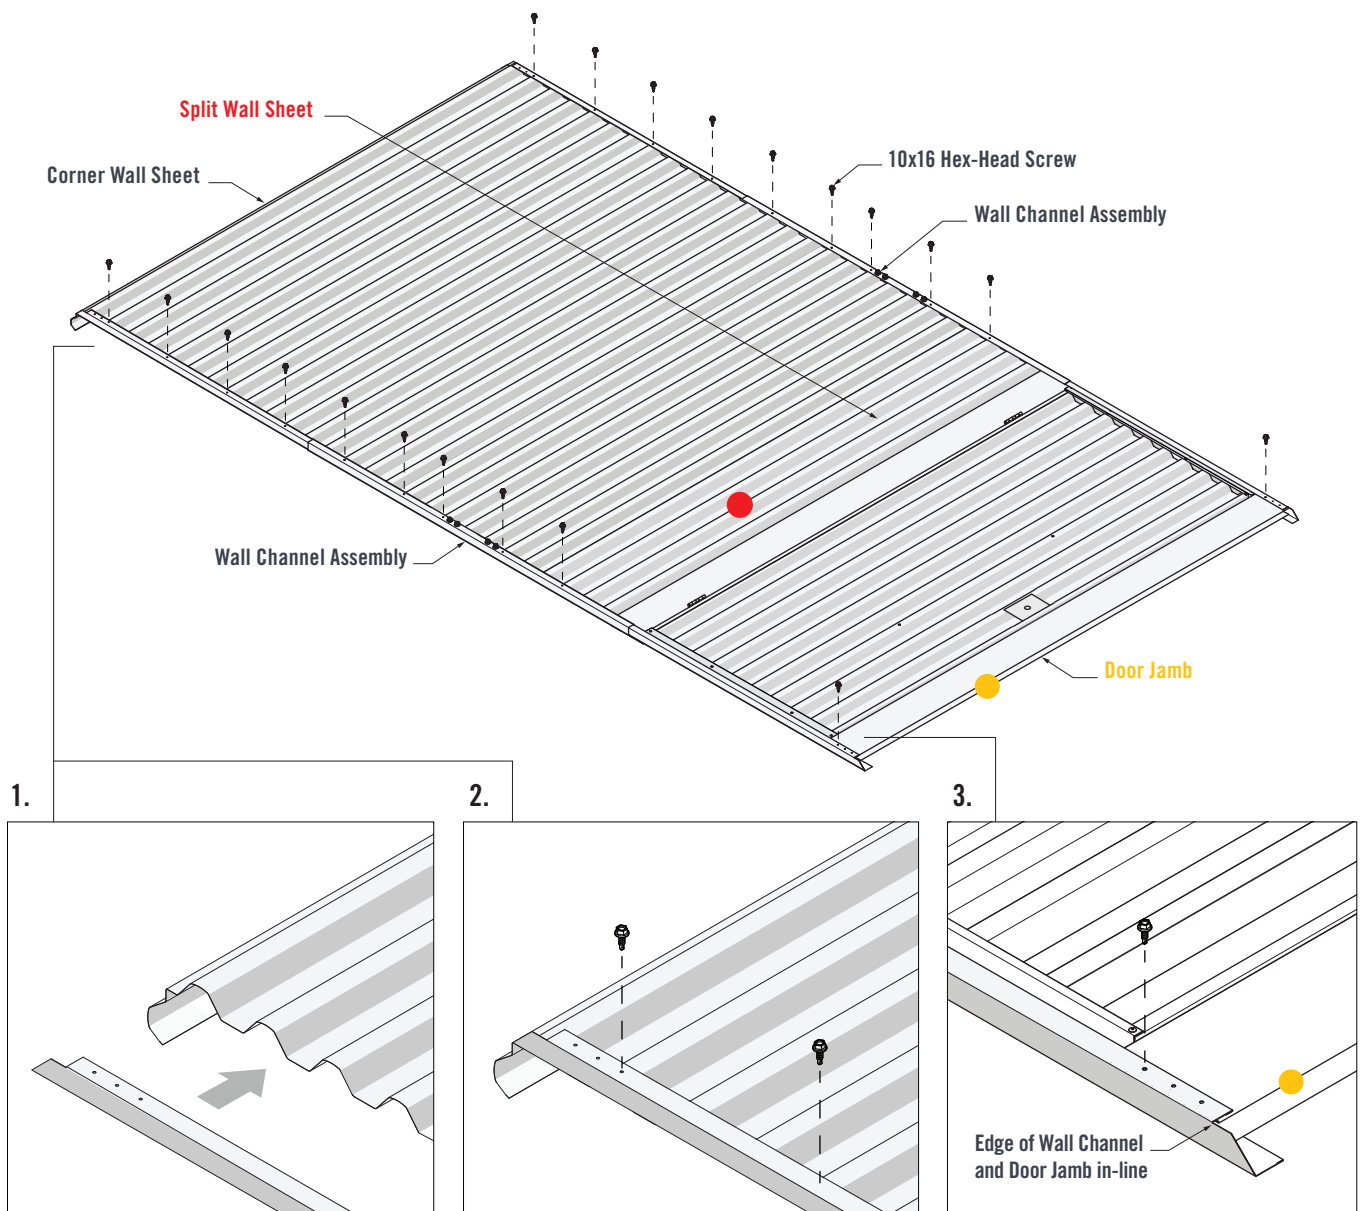

FIGURE 5.2
1. Fit two Wall Channel Assemblies over the lapped Wall Sheets and Door Jambs. The end of the Wall Channels should fit up against the end of the Corner Wall Sheet (Figure 5.2).
2. Fasten one 10x16 Hex-Head Screw through the third pilot hole of the bottom and top Wall Channels and into the Corner Wall Sheet crest. Fasten eight 10x16 Hex-Head Screws through the bottom and top Wall Channels and into every third Wall Sheet crest (Figure 5.2).
3. Ensure the edge of the Wall Channels and Door Jamb are in-line. Fasten one 10x16 Hex-Head Screw through the third pilot hole of the bottom and top Wall Channels and into the Door Jamb (Figure 5.2).